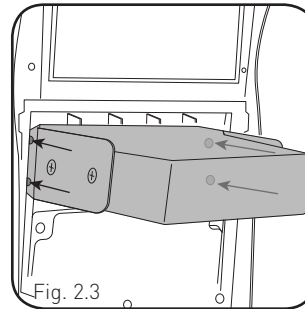

Fig. 2.3
3. Mount the storage pocket to the FLX1 bezel using the four (4) Phillips screws provided. (Fig. 2.3)